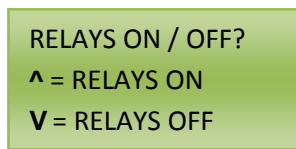

Figure 15.2
- a. This Action will allow all the relays to be turned ON or OFF. This should be done when setting up the system – it helps determine that Time-Keeper® is communicating properly. To Test the Relays, press the UP or DOWN Arrows. See Figure 15.2 for an example.